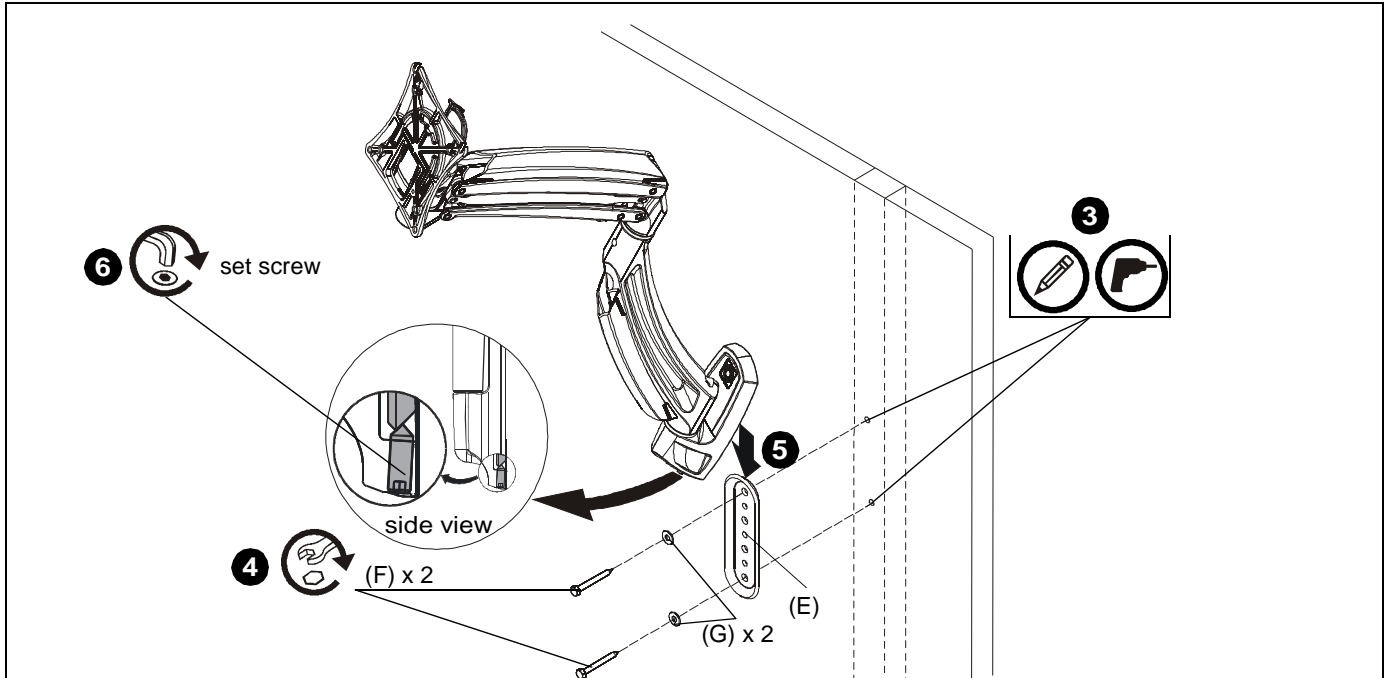

Figure 9
3. Use wall bracket to mark and drill two 3/16 x 2 1/2" holes in wall at desired mounting location. (See Figure 9)
4. Use two 1/4-2 1/2" hex head lag screws (F) and two 1/4" washers (G) to install wall bracket onto wall. (See Figure 9)
5. Hang monitor arm (A) over wall bracket. (See Figure 9)
6. Secure monitor arm to wall bracket by tightening set screw. Ensure set screw engages back side of wall bracket (E) to properly secure mount. (See Figure 9)